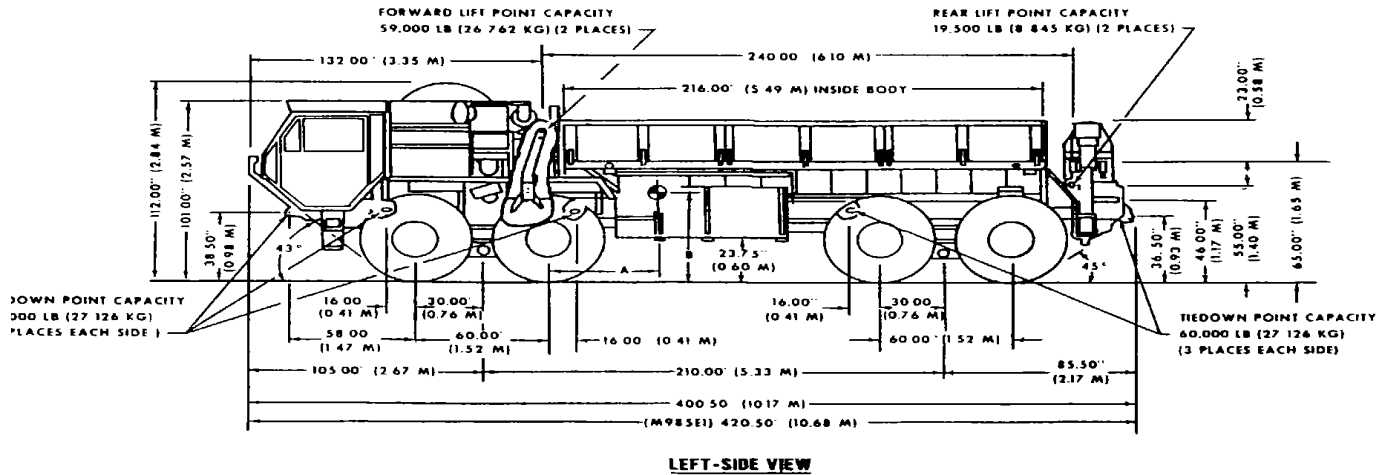

Figure 2-13. Large repair parts transporter, M977.
e. *Large Repair Parts Transporter (LRPT)*. The LRPT is an Mp77 HEMTT. This 10-ton, 8 x 8 cargo truck is shown in figure 2-13.